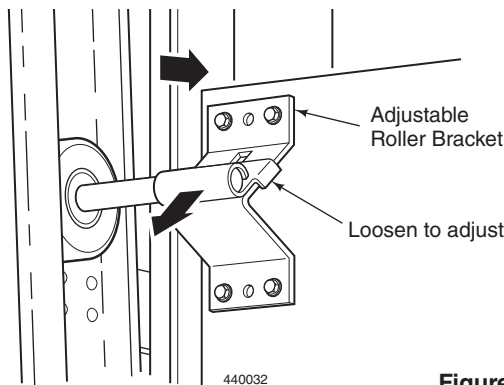

Figure 21
3. Remove the adjustable portion from the Adjustable Roller Bracket at the top of the Door Panel. Insert a Roller, tip the Roller into the Track, and refasten loosely to the Roller Bracket. Repeat the procedure for the opposite Roller Bracket. See Figure 21.
8. Install the remaining Rollers in the Adjustable Brackets as above. With the Rollers fastened loosely in place, slide the adjustable portion down and away from the Door while pushing the Door Panel snug to the Gasket Header. Tighten the nuts to secure the adjustable portion to the Roller Bracket. See Figure 21.